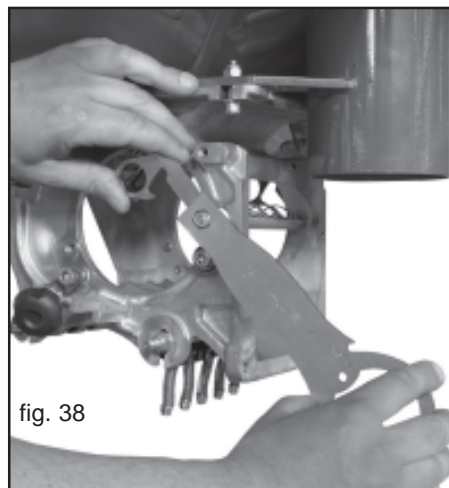

fig. 38
- 3) Loosen the M8 nuts (Fig. 38) using the supplied multi-purpose wrench.